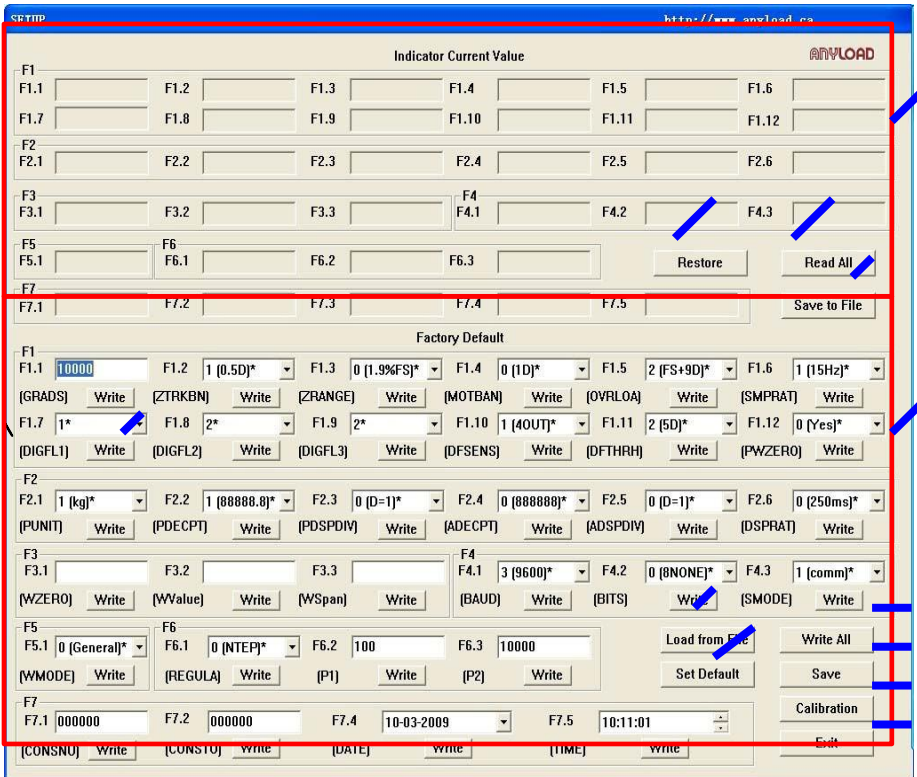

Figure 1.2.3 805TS Setup Interface
Parameter Setup - Setting the parameters of 805TS indicator. Click and will enter into the 805TS Setup Interface (see figure 1.2.3).
1.2.3 805TS Setup Interface (see Figure 1.2.3)